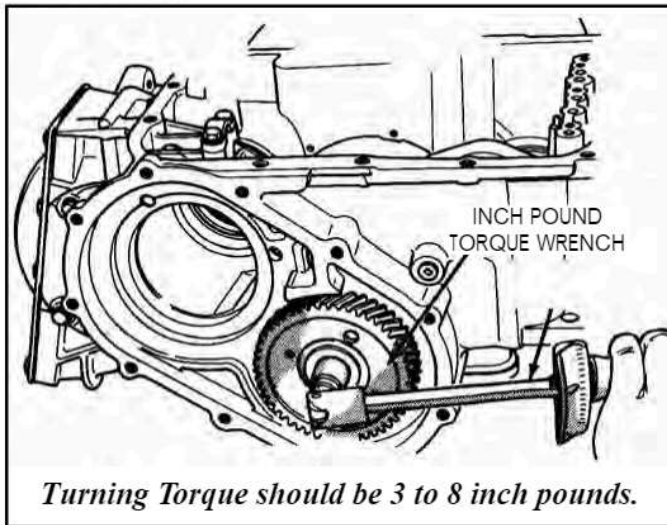

Figure 180
10. Using an inch pound torque wrench, check the turning torque, as shown in Figure 180.